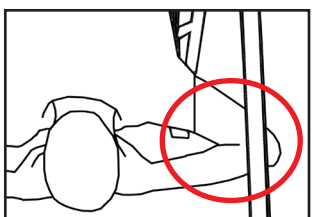

Figure 13
*USE CAUTION: Elbows protruding over the sides of the Table Bed could get pinched between the A-frame and the Table Bed as you return upright. (Figure 13).*